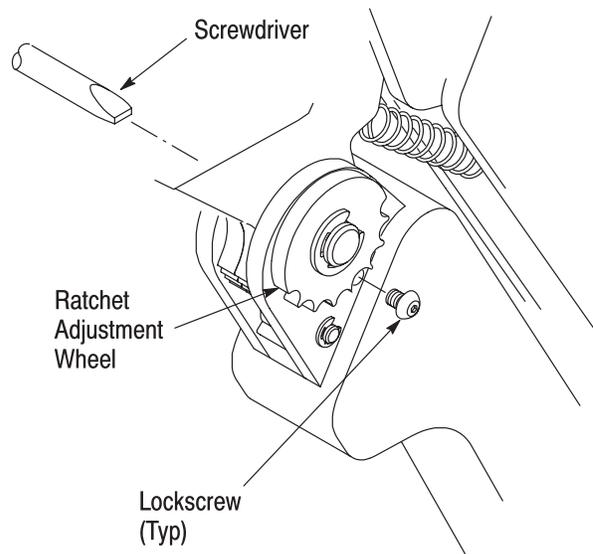

Figure 5
**7. RATCHET ADJUSTMENT** (Figure 5)